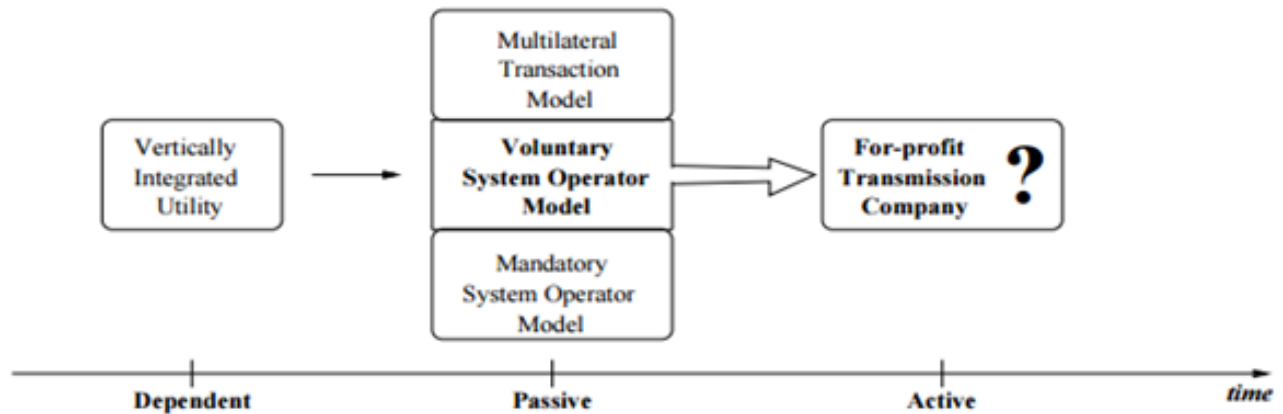

Figure 1: Role of Transmission Provider-----3 marks
- As shown in figure 1 there are three different structures of TP under this phase.